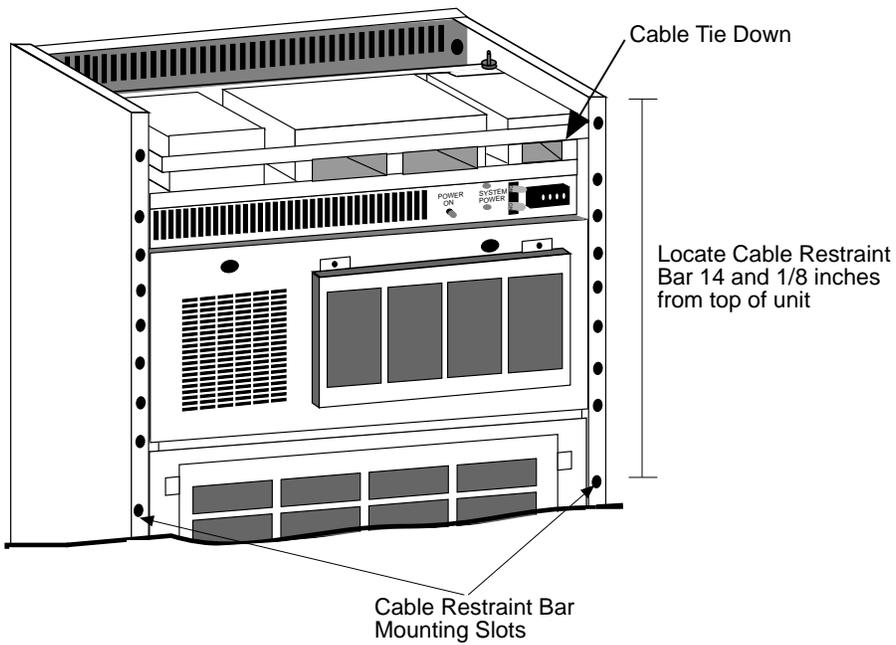

Figure 2-6. Cable Restraint Installation
9. Install the cable restraint bar on the rear of the unit as shown in Figure 2-6. This bar is to be installed in the bottom-most mounting holes on the unit and is secured with 2 #10 screws.
7. Install the cable restraint bar on the rear of the unit as shown in Figure 2-6. This bar is to be installed in the bottom-most mounting holes on the unit and is secured with 2 #10 screws.
8. Install the cable restraint bar on the rear of the unit as shown in Figure 2-6. This bar is to be installed in the bottom-most mounting holes on the unit and is secured with 2 #10 screws.